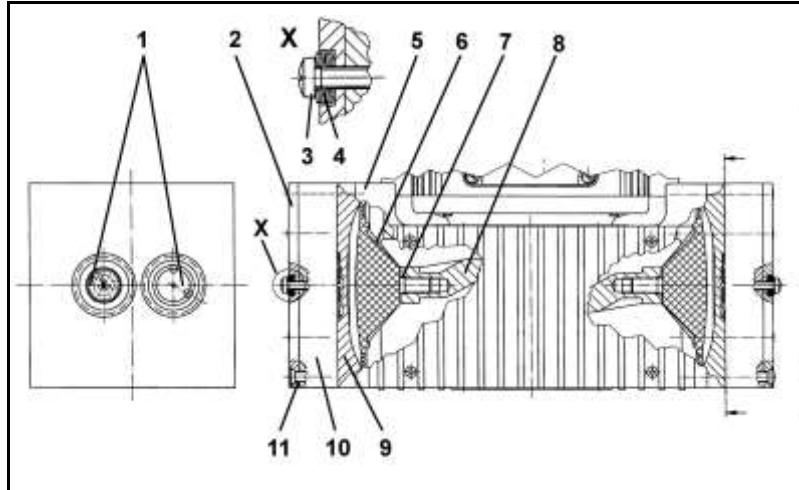

Fig. 11: Cross section of pump heads for pump U 860.3 FT.40P (symbolic)
3. At both pump heads make a mark (M) on the top plate (fig. 11/2), head plate (10), intermediate plate (9), and housing (5) with a felt-tip pen. This is to ensure that the parts will be reassembled correctly at a later stage.
4. Undo the eight screws (11).
5. Lift the pump heads off the housing (5).
1. Turn the fan to bring the diaphragm (6) of one pump head to medium position.
2. Place the intermediate plate (9), with valve plates/sealings (1), on the housing, in the position indicated by the marking (M).
3. Place the head plate (10) on the intermediate plate (9) in the position indicated by the marking (M).
4. Place top plate (2) in position and insert screws (3) with disk springs (4), and tighten them until the screw heads are just fully seated (do not completely tighten them!).
- i** The concave side of the first three disc springs must point away from the screw head, the next three towards it (see fig. 11, detail X).